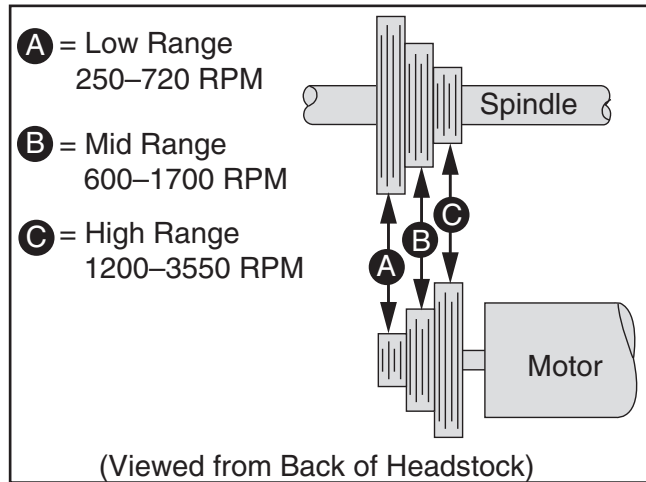

Figure 24. Speed ranges for each belt position.
5. Locate desired speed range on chart on front of headstock, then move belt to necessary grooves on motor and spindle pulleys (see **Figure 24**).